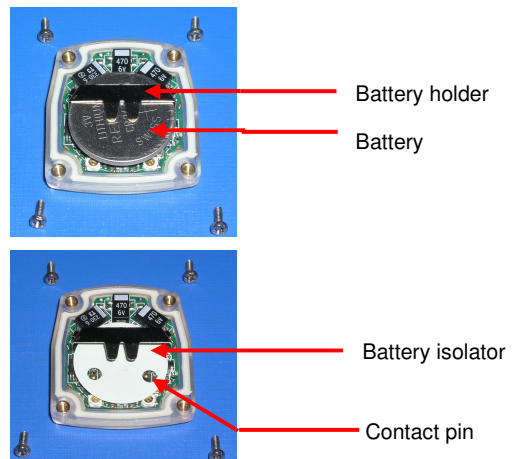

Figure 3: ETC (battery removed)
4. Carefully slide the battery out from under the battery holder to reveal the battery isolator (Figure 3).
5. Before inserting a new battery into place, position the battery Isolator such that the holes are aligned with the contact pins (Figure 3).